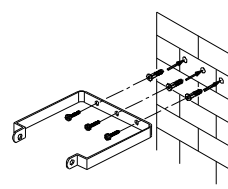

FIGURE 11
4) Remove the mounting bracket from the floodlight. Drill the wall and screw the bracket onto the wall using suitable wall plugs and screws (FIGURE 11).